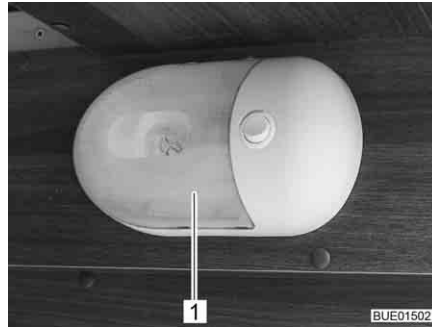

Fig. 272 Garage light
- Carefully push the transparent cover (Fig. 272,1) together from both sides, pull it lightly from the switch and pull it off forwards.